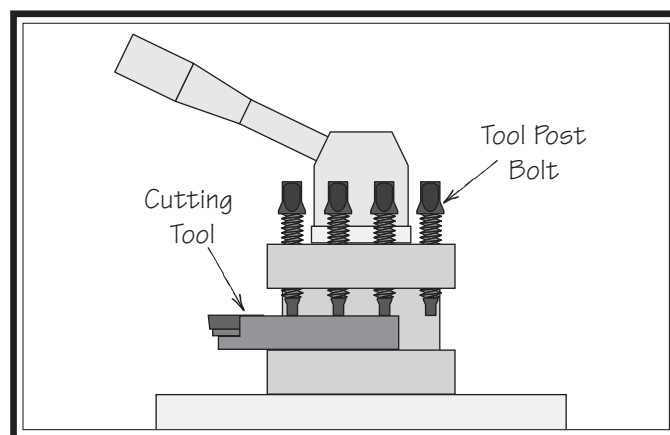

Figure 57. Example of tool mounted in tool post.
1. Adjust the tool post bolts so that the cutting tool can fit underneath them (see **Figure 57**).